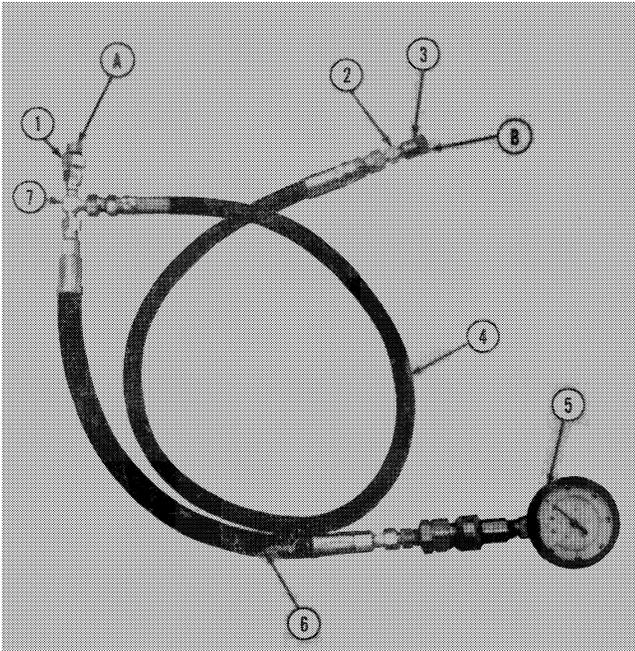

Figure 13
(Refer to Pages 16 and 17, Figures 13 and 14, Chapter 12, Part 8, SE-3870)
2. Connect the test equipment as shown in Figure 13.